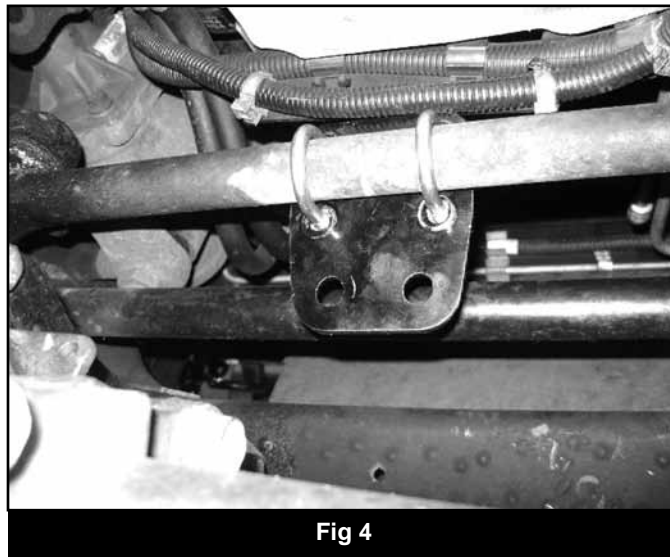

Fig 4
8. Locate the new centerlink bracket, u-bolts and 308 bolt pack. Position the new centerlink bracket on the front side of the centerlink so that two stabilizer mounting holes are pointing down. (Fig 4) Fasten the bracket to the centerlink with the provided 5/16" u-bolts, nuts and washers (BP 308). The u-bolts will be running from the back to front. Be sure the bracket is centered on the locating mark made earlier. Snug bracket hardware. Note: There is a hole in the center of the bracket to be used for positioning.